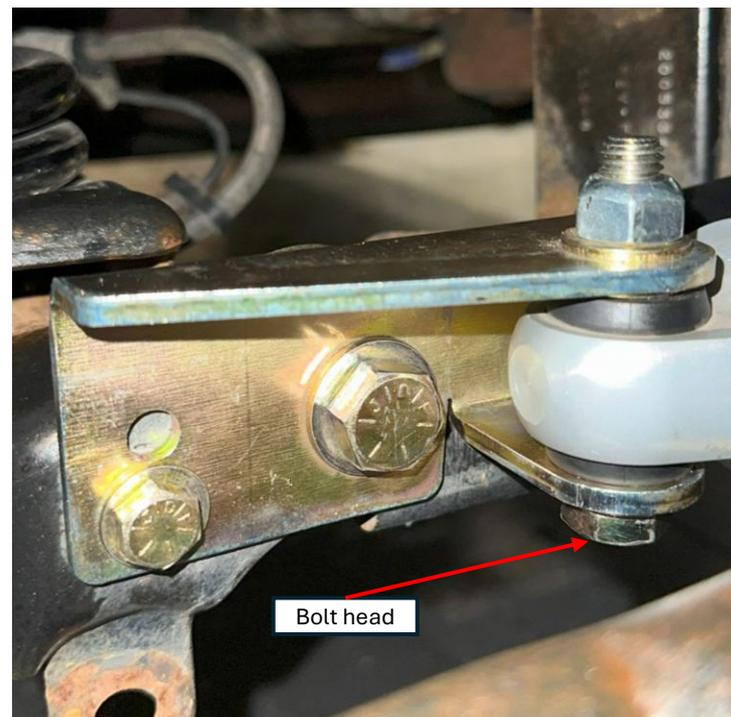

Figure 7: Steering stabilizer installed with the bolt head on the bottom of the bracket, and spacer washer installed
6. Install the factory or aftermarket steering stabilizer with the included M12 bolt, washers, and top lock nut in the orientation shown in Figure 7. Depending on the steering stabilizer, you may need to use the extra included washer as a spacer, also seen in Figure 7. Do not torque the steering stabilizer bolt yet.